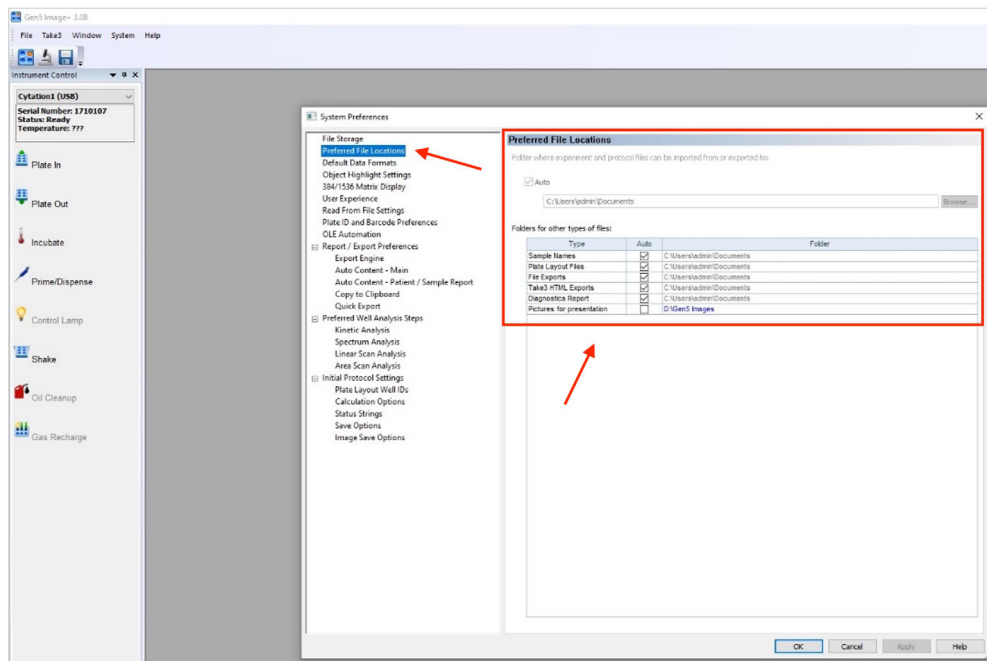

Figure 8. The **Preferred File Locations** option in **System Preferences**.
- c Select the **Preferred File Locations** option (Figure 8) and record the folder location where the Biotek Cytation image files are stored. If the Cytation image files are saved on the hard drive to be replaced, copy the folder where the images are stored off the hard drive to your external storage device.